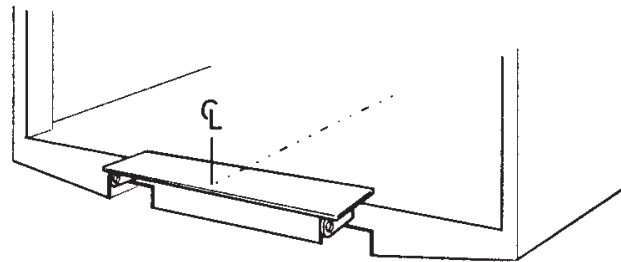

Figure 27. Fasten or spot-weld the assembly jig to the rear beam
2. Fasten or spot-weld the assembly jig to the rear beam so that each centre point aligns. See Figure 27. Art. no. 51724TL for Z 1500/2000.